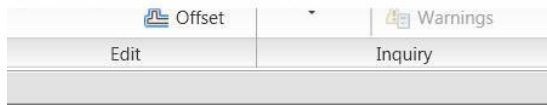

Figure 15. The Cut Geometry tool.
12. From the Modify ribbon, click the Cut tool (see Figure 15). Pick the void (shown in orange in your graphics window), then click the wall.